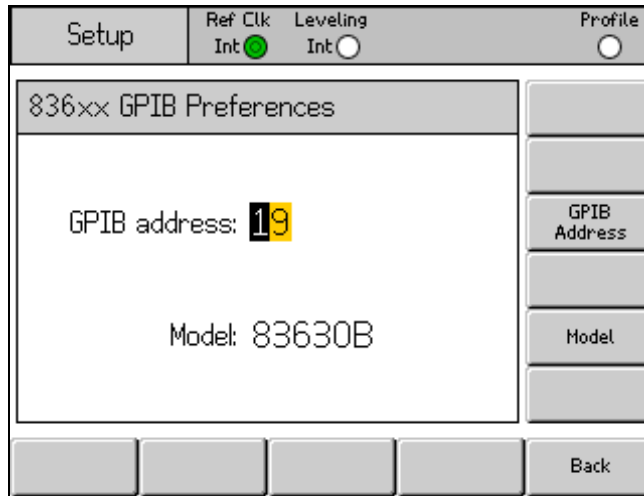

Figure 23. 836xx GPIB Preference Screen
5. Set the GPIB Address and Model. See Figure 23.